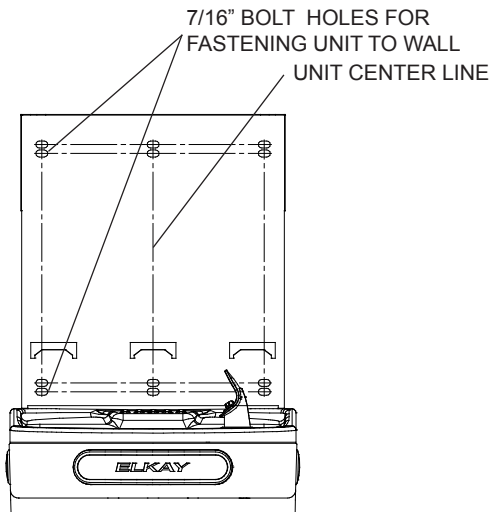

Fig. 4
- 2) **Remove wall mounting plate** from Bottle Filler. Place wall plate against wall on top of basin. Center the wall plate side to side with the basin. Mark the six (6) mounting holes with a pencil (See FIG. 4).
- 4) **Install wall mounting plate** to wall using six (6) 7/16" obround mounting holes (mounting bolts not included) (See Fig. 4). Use appropriate fasteners for your wall type.